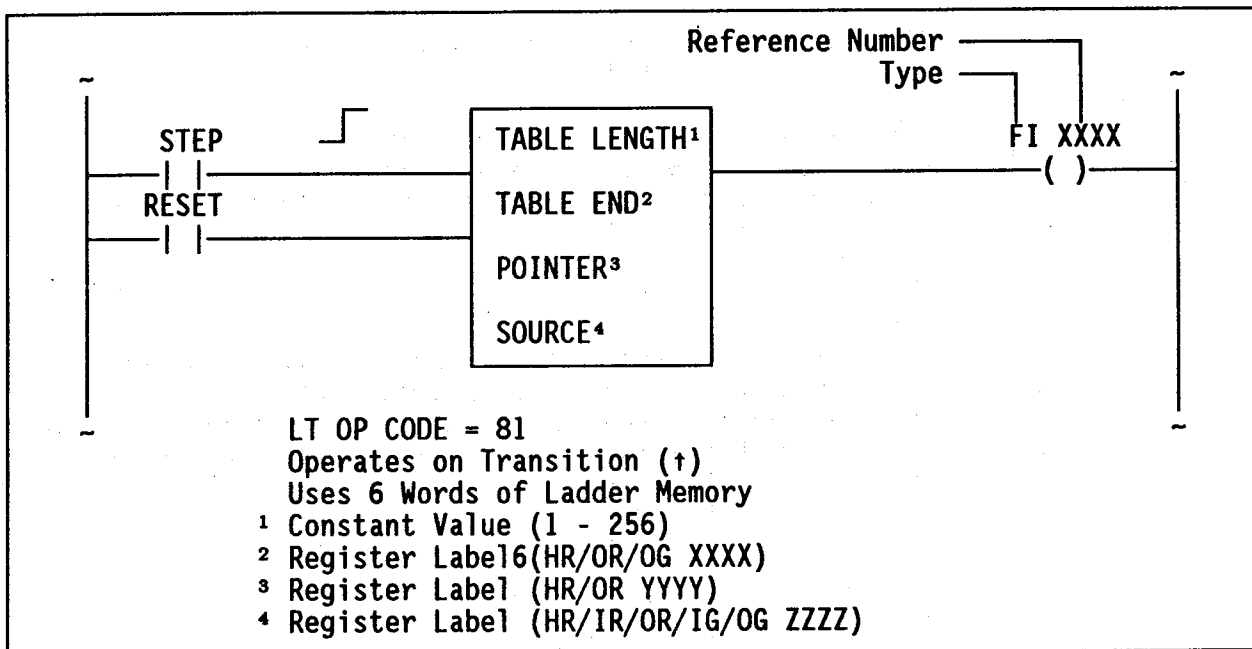

Figure 1. FI Function
The FIFO Stack function is a combination of two functions: the First in Stack (FI) function, and the First Out Fetch (FO) function. In FIFO Stack, the first data entered is the first data retrieved. FI function symbology is shown in Figure 1; FO function symbology is shown in Figure 2.